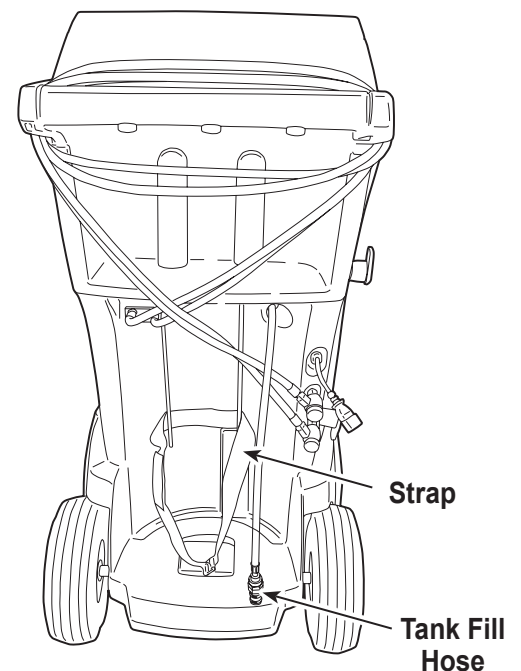

Figure 14
1. Connect an R-1234yf source tank to the tank fill hose at the rear of the machine. See Figure 14.